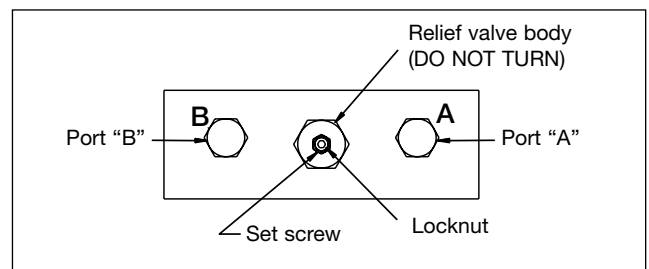

Figure 9
2. Install a 0-6,000 psi [0-400 bar] gauge in the "A" port (see figure 9). Place a 3/8" pipe plug in the "B" port and torque to 25 ft-lbs [33 Nm].